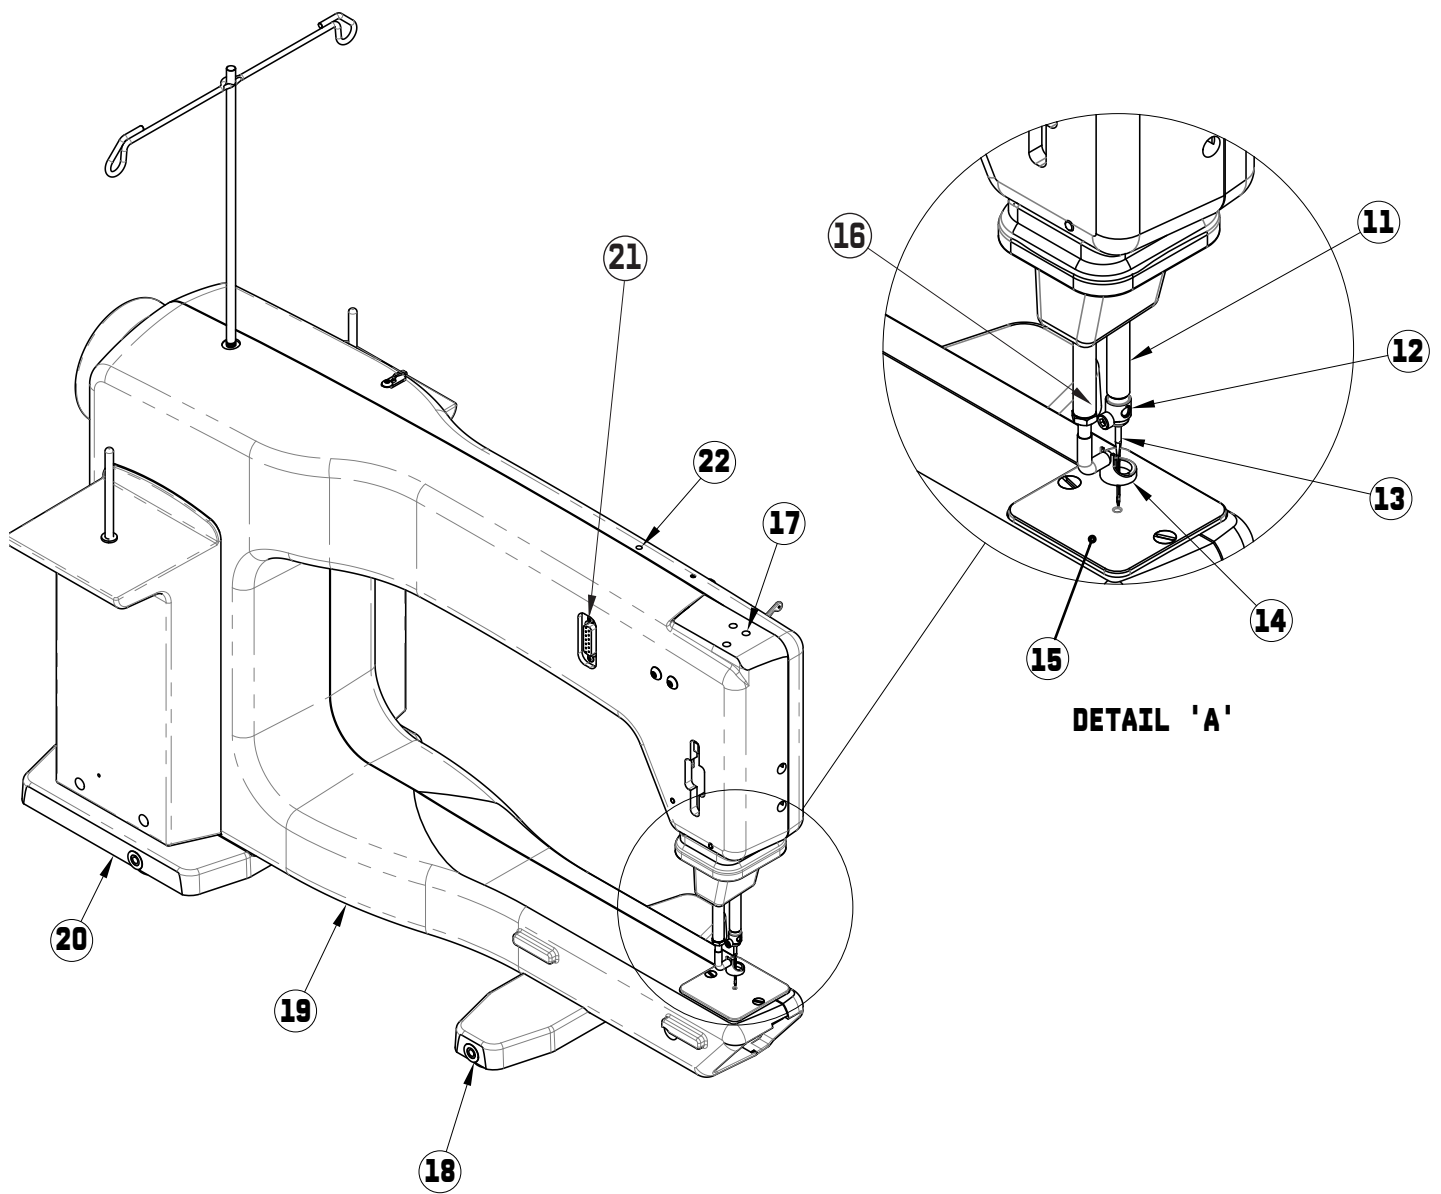

Figure 2
2. There are three holes on top of the machine head (see page 11, Figure 2, #17). Only the two holes that are in line with each other are used. Ignore the third hole located to the side of these two holes.
5. Plug the remaining cable end into the display connector located on the side of the machine (page 11, Figure 2, #21).